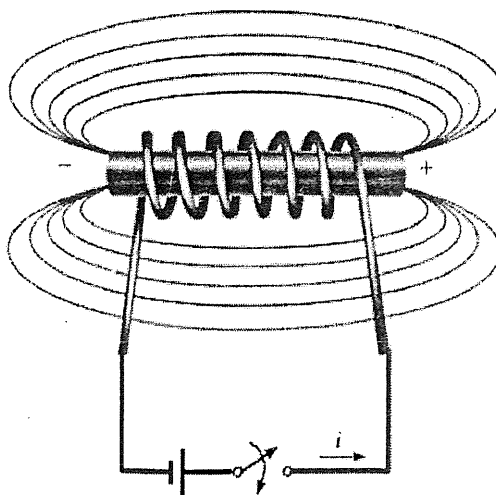

FIG. 1.7
- The construction of inductor is shown in Fig. 1.7